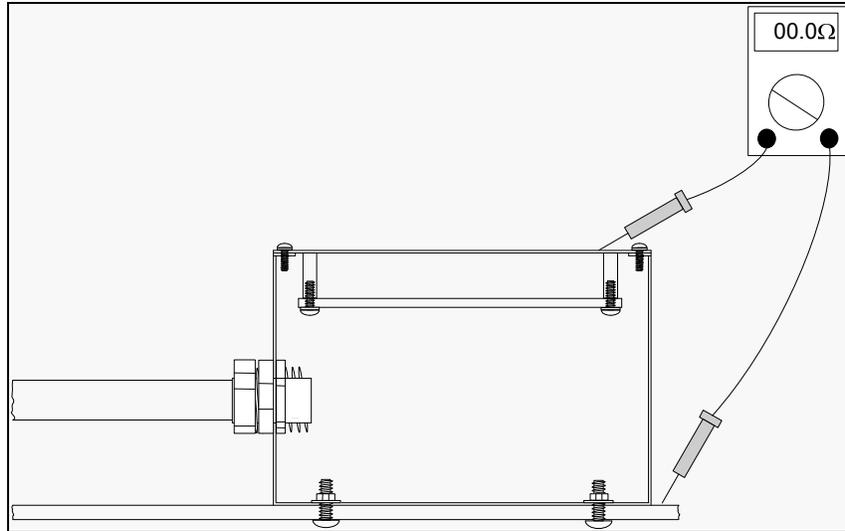

Figure 23 Continuity Testing - Mounting Surface to Faceplate
Step 2: Measure the resistance from the mounting surface to the faceplate shown in **Figure 23** below.